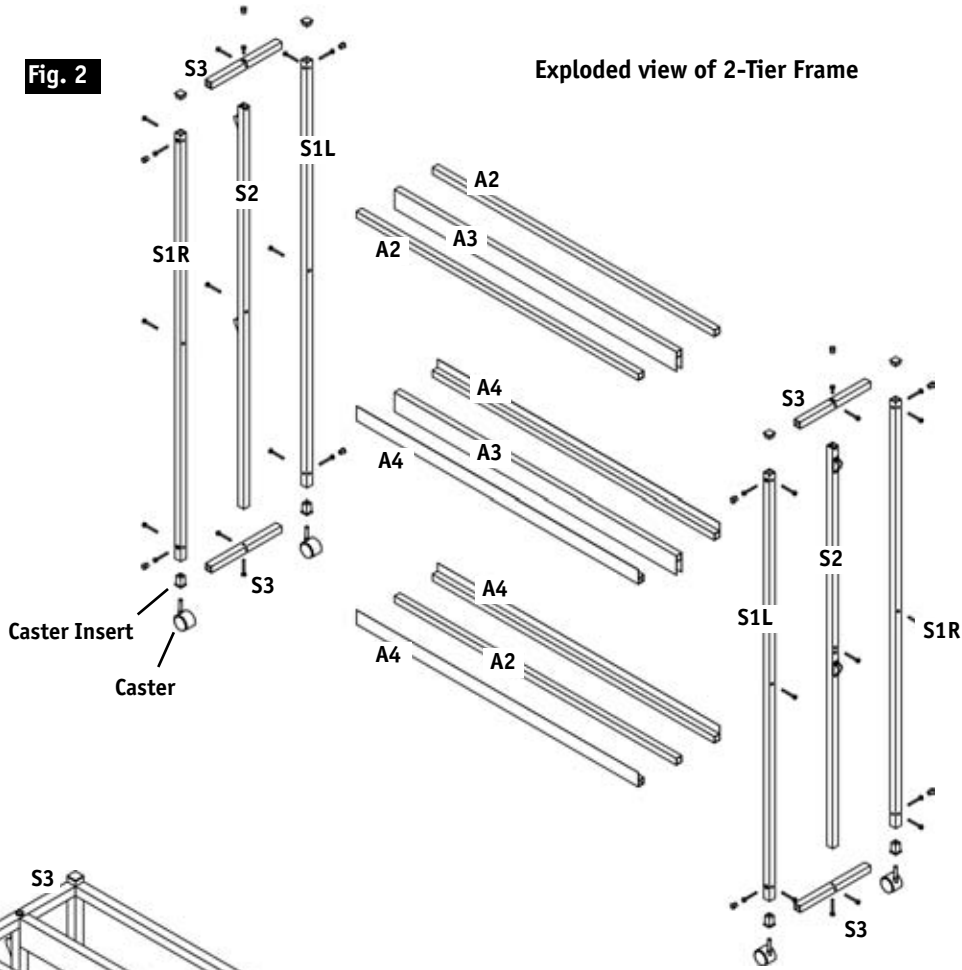

Fig.3a
Step 9. Connect the A4 Shelf Bars to the S1 Vertical Bars at each tier (Fig 2). Each A4 Shelf Bar is box-shaped with a thin flange. Make sure the flat side of the flange is flush with the outside of the S1 Bars on each side and pointing toward the top of the unit. The box-shaped portion of the Shelf Bars are positioned inside to act as shelves for the Poly Trays (Fig. 3a or 3b).